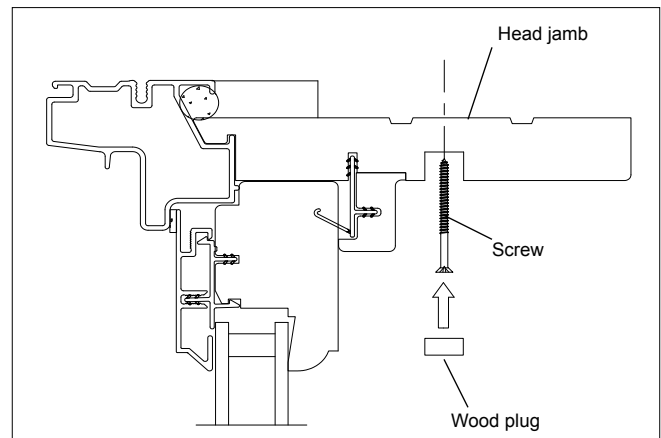

Figure 6
2. Install the units per the supplied installation instruction. If supplied, use the supplied jamb installation screws and pre-drilled holes in the jamb. See figure 6.
3. After the unit has been secured into the opening, use the supplied wood plug to cover the installation screws on Magnum units. See figure 6.